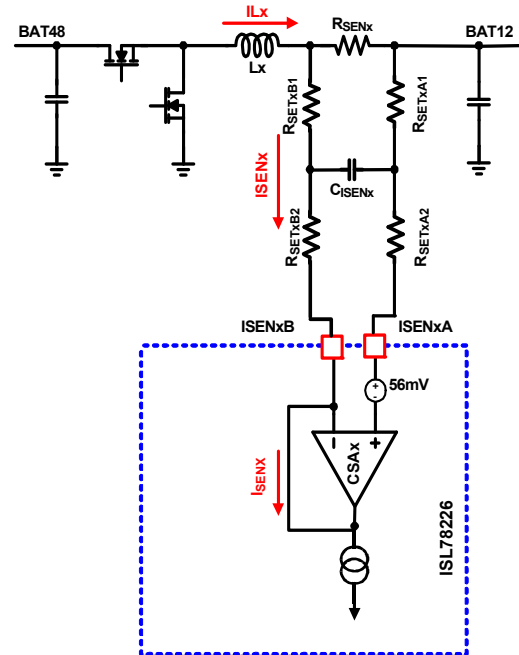

FIGURE 135. CURRENT-SENSING BLOCK DIAGRAM FOR INDIVIDUAL PHASE I_{SENx}
The ISL78226 peak current control architecture senses the inductor current of each phase continuously for fast response. A sense resistor (shunt) is placed in-series with the power inductor for each phase. The ISL78226 Current-Sense Amplifiers (CSA) continuously sense the respective inductor current (as shown in Figure 135) by sensing the voltage signal across the sense resistor R_{SENx} (where "x" indicates the specific phase number and same note applied throughout this document). The sensed current for each active phase will be used for peak current mode control loop, phase current balance, individual phase cycle-by-cycle peak current limiting (OC1), individual phase overcurrent fault protection (OC2), averaged Constant Current Limit (CCL) control, Average Overcurrent Protection (AOCP), Diode Emulation (DE), and Phase Drop/Add control. The internal circuitry shown in Figure 135 represents a single phase and is repeated for each phase.
The RC network between R_{SENx} and ISENxA/ISENB pins as shown in Figure 135 is the recommended configuration. The current gain setting resistor, R_{SETxB} , is R_{SETxB1} plus R_{SETxB2} in Figure 135 and that sum should be fixed at 1k Ω .
It is also recommended to have $R_{SETxA} = R_{SETxB}$ and all four resistors as equal in value as standard values allow. Insert a capacitor, C_{SENx} , between them as shown in Figure 135. This will form a symmetric noise filter for the small current-sense signals. The differential filtering time constant equals $(R_{SETxA1} + R_{BIASxB1}) * C_{SENx}$. This time constant is typically selected in the range of tens of ns depending on the actual noise levels.